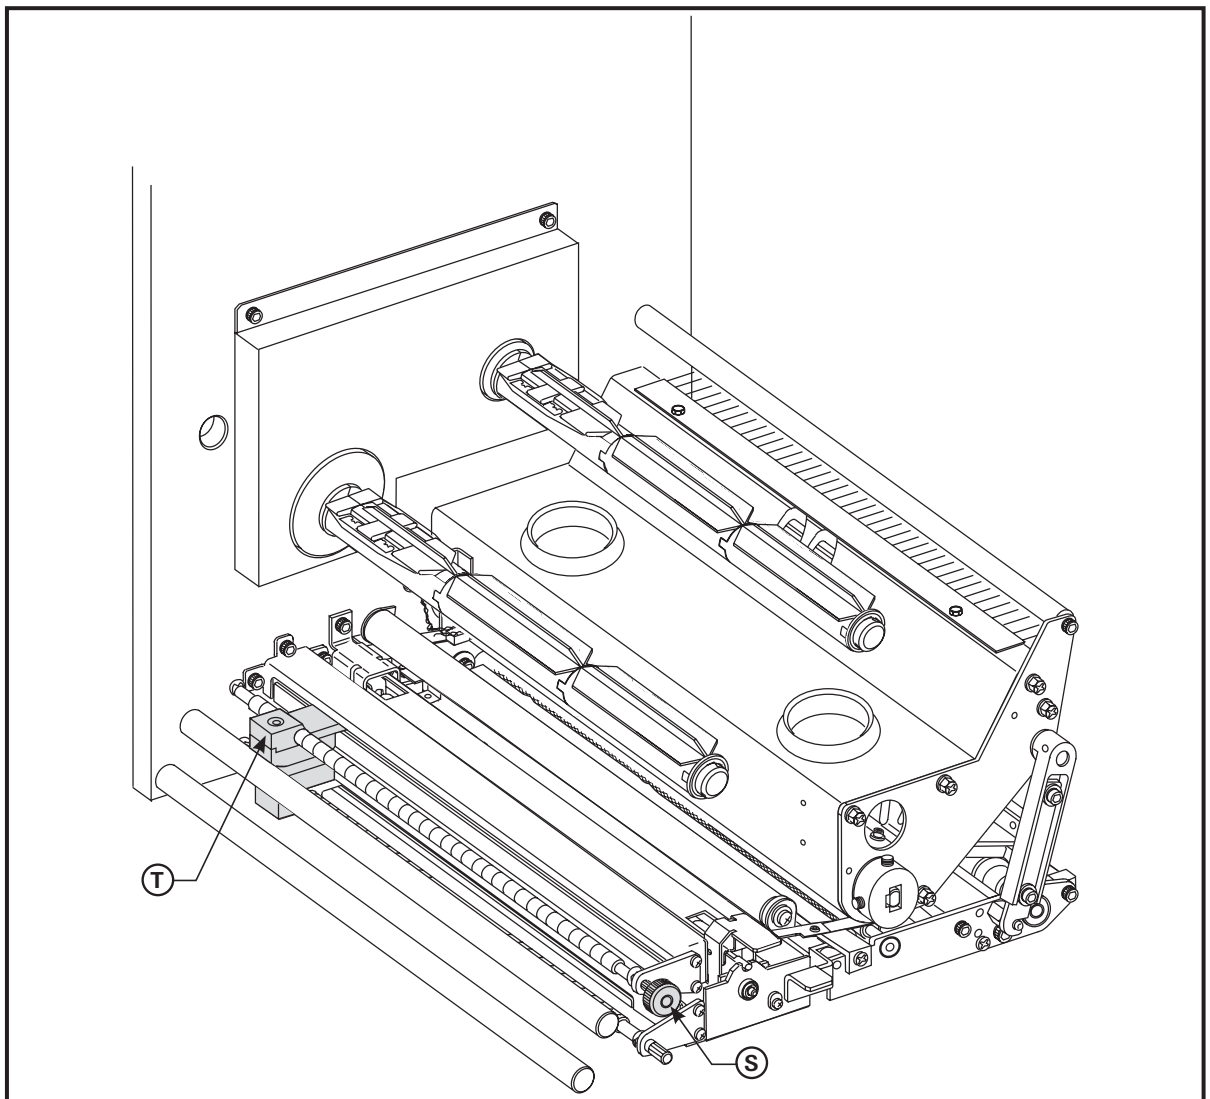

Figure 6. Media Sensor Adjustment (Right-Hand Unit Shown)
The transmissive media sensor is used to find “start of label” indicators such as a notch or hole in the media or an interlabel gap (backing only) between labels. This sensor consists of a light source (positioned below the media) and a light sensor (positioned above the media). To properly align the position of this sensor, refer to Figure 6 and turn the adjustment knob (R) on the media guide shelf assembly until the sensor (S) is aligned with the notch or hole in the media. If your media uses an interlabel gap, position the media sensor approximately at the center of the media width.